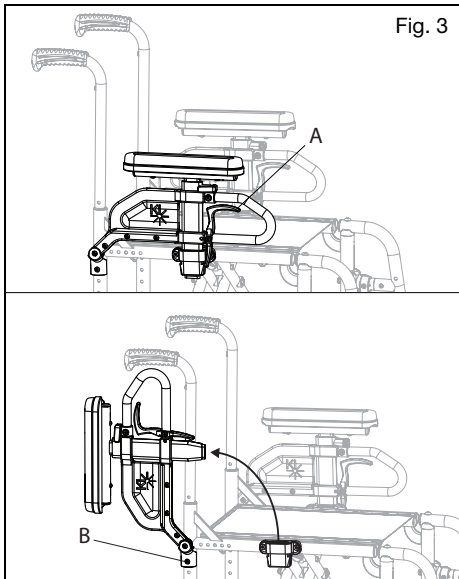

Fig. 3
The tension felt during the flipping of the armrest can be decreased or increased by tightening or loosening the bolt (Fig. 3:B).
- a. To flip back the armrest, pull the release lever (Fig. 3:A) up and lift the armrest assembly up and back.